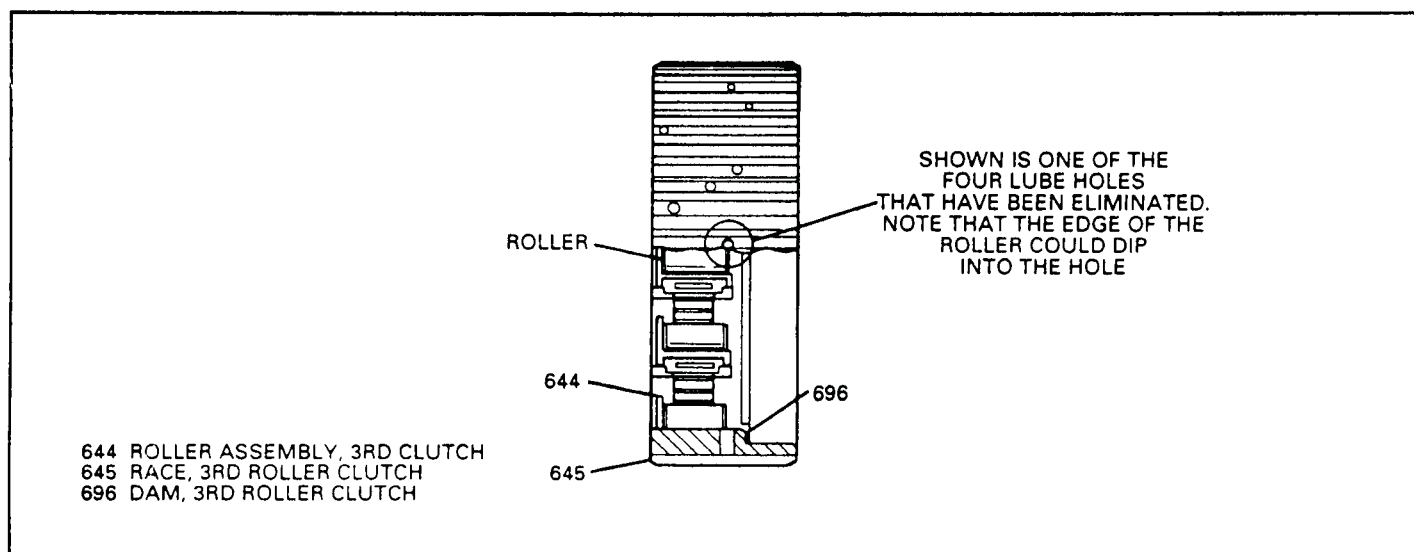

Figure 23
- (2) 3RD ROLLER CLUTCH ASSEMBLY - The new 3rd roller clutch outer race has four (4) less lube holes than previous models. The four lube oil holes are in line with the very end of the rollers (See Figure 23). Elimination of these four holes helps keep the rollers from "Skewing" (Running at an Angle), thus generating less heat.